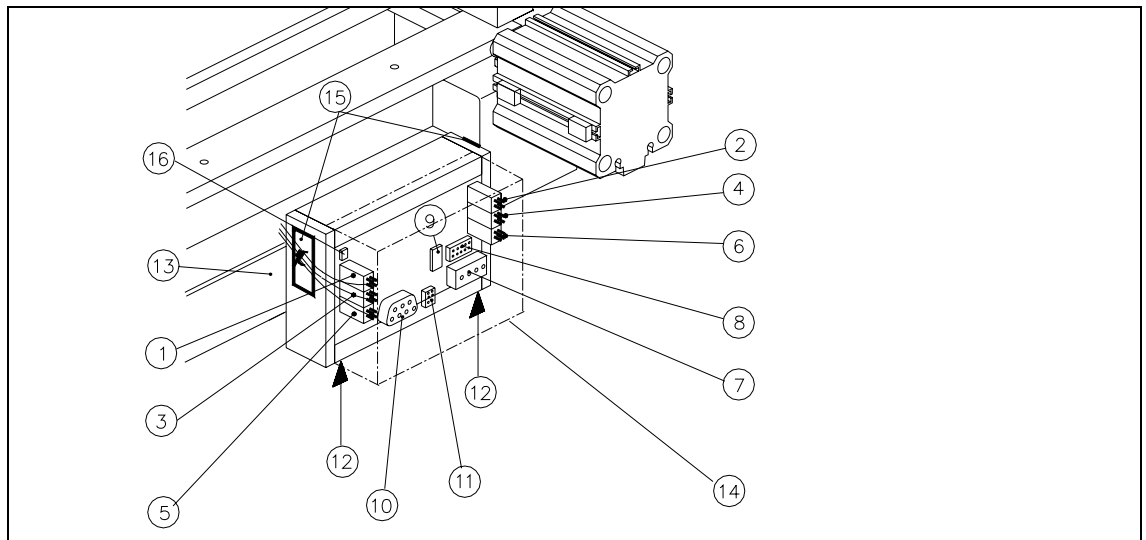
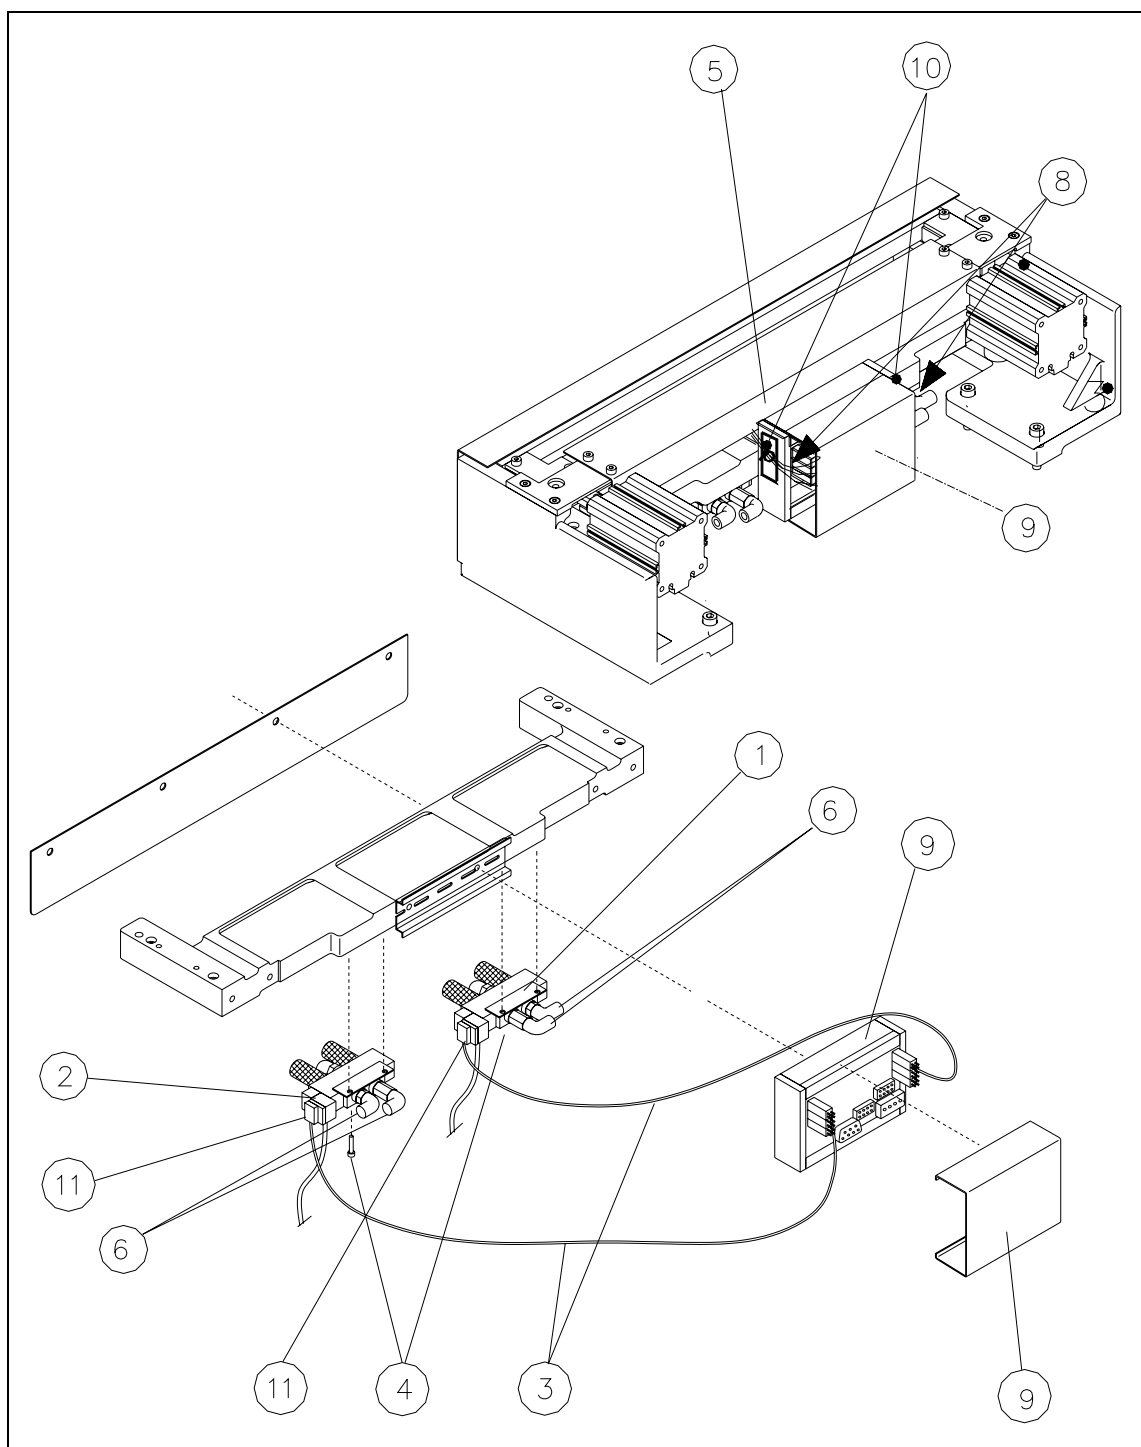

Fig. 5.6.5 *Exchanging the Control Unit, Allocation of the Plug-and-Socket Connections*
Fig. 5.6.7 *Exchanging the Solenoid Valve*
- Make the plug-and-socket connections for the power supply and drive on the control board (al-location: see Fig. 5.6.5 -> 11, 10).
- Use a cable tie to fasten the cables running to the cable pit to the fixing pedestal on the control board box (see Fig. 5.6.5 -> 15).
- Carefully undo the cable ties (left and right) on the outside of the control board box (see Fig. 5.6.7 -> 10).
- Mark the allocation of all plug-and-socket connectors and disconnect all plug-and-socket connections on the control unit (see Fig. 5.6.5).
- Restore all plug-and-socket connections in the correct allocation (see Fig. 5.6.5).
- Use a cable tie to fasten the cables running to the LH and RH side of the cable pit to the fixing pedestal (on control board box). The strain on the cables/plug-and-socket connections must be relieved (see Fig. 5.6.7 -> 8).
Key to Fig. 5.6.7 (right):
- Carefully undo the corresponding cable tie (left or right) on the outside of the control board box (see Fig. 5.6.7 -> 10).
- Remove the cover from the control board (see Fig. 5.6.7 -> 9).
- Unplug the plug-and-socket connection of the cable "Control board for tape cutter - valve" of the appropriate solenoid valve on the control board (see Fig. 5.6.5 -> 1, 2).
- Loosen the plug-and-socket connection of the cable "Control board for tape cutter - valve" of the appropriate solenoid valve (see Fig. 5.6.5).
- Take the cover off the cable pit (see Fig. 5.6.7 -> 5).
- Make the plug-and-socket connection on the board (see Fig. 5.6.5) and on the solenoid valve with correct allocation (see Fig. 5.6.7).
- Place the cover back on the control board (see Fig. 5.6.7 -> 9).
- Install the cover on the cable pit (see Fig. 5.6.7 -> 5).
The strain on the cable / plug-and-socket connections must be relieved (see Fig. 5.6.7 -> 8).
- Undo the 2 compressed air connections on the one-way restrictors at the faulty solenoid valve (see Fig. 5.6.7 -> 1, 2, 6).
- Unplug the plug-and-socket connection of the cable "Control board tape cutter - valve" on the faulty solenoid valve (see Fig. 5.6.7 -> 11).
- Undo the screws fastening the faulty solenoid valve (2 M3 screws: see Fig. 5.6.7 -> 4) and remove the solenoid valve.
- Mount the new solenoid valve (Item no.: see Section 5.2) in the correct position, as shown in Fig. 5.6.7. Make the plug-and-socket connection at the solenoid valve:
- > The strain on the cable must be relieved (see Fig. 5.6.7 -> 8).
- Remove the cover from the control board (see Fig. 5.6.5 -> 14).
- Carefully undo the corresponding cable tie (left or right) on the outside of the control board box (see Fig. 5.6.5 -> 10).
- Disengage the plug-and-socket connection of the faulty proximity switch on the control board (allocation: see Fig. 5.6.5).
- Use a cable tie to fasten the cables running to the cable pit to the fixing pedestal on the control board box (see Fig. 5.6.7 -> 10).
- The strain on the cables / plug-and-socket connections must be relieved (see Fig. 5.6.7 -> 8).
The strain on the cables / plug-and-socket connections must be relieved (Fig. 5.6.7 -> 8).